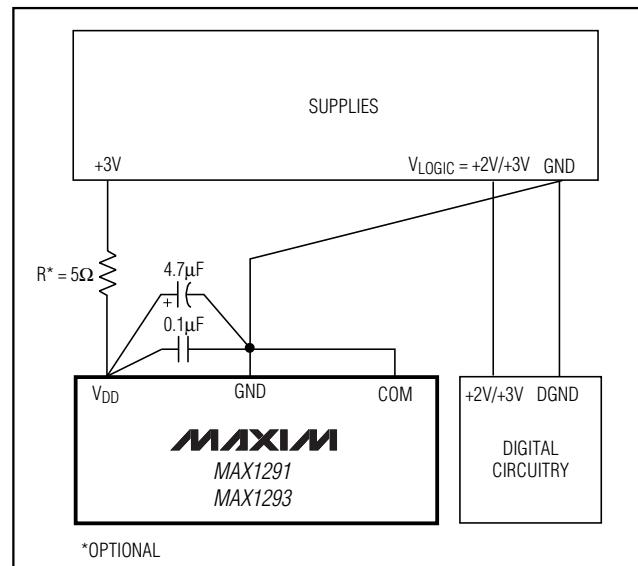

Figure 11. Power-Supply and Grounding Connections
For best performance use printed circuit (PC) boards. Wire-wrap configurations are not recommended since the layout should ensure proper separation of analog and digital traces. Do not run analog and digital lines parallel to each other, and don't lay out digital signal paths underneath the ADC package. Use separate analog and digital PC Board ground sections with only one starpoint (Figure 11) connecting the two ground systems (analog and digital). For lowest-noise operation, ensure the ground return to the star ground's power supply is low impedance and as short as possible. Route digital signals far away from sensitive analog and reference inputs.